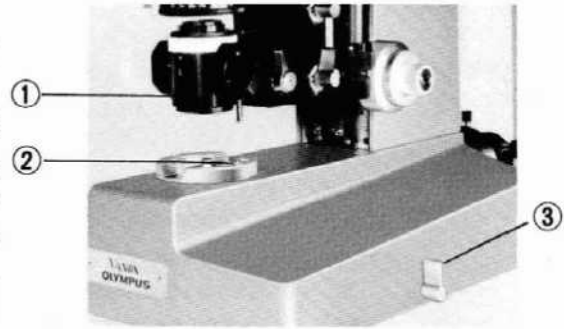

Fig. 13
The auxiliary lens system helps in achieving perfect Koehler illumination at all magnifications by manipulation of the auxiliary lens system ①, the frosted glass ②, and the swing-out auxiliary lens ③, respectively. Lens manipulation is achieved by means of levers or knobs as shown in the photograph. (Fig. 13) The correct lens positions for various objective powers are summarized in the following: